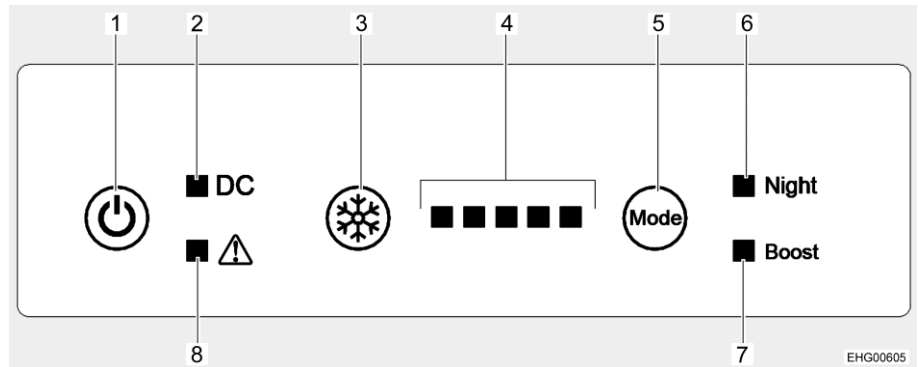

Fig. 110 Operating controls (refrigerator)
- Press and hold the On/Off button (Fig. 110,1) for 1 second. The buzzer sounds, all indicator lamps light up (light test) and go out after approx. 10 seconds. Only the operation indicator lamp (Fig. 110,2) remains lit, indicating that the refrigerator is working. The compressor starts after a short delay.
- Press and hold the On/Off button (Fig. 110,1) for 10 seconds. The buzzer sounds and all indicator lamps go out.
- Press the button for cooling setting (Fig. 110,3) repeatedly until the desired cooling level is displayed. The more indicator lamps (Fig. 110,4) are lit, the higher the cooling power (and also the energy consumption).
- Press the operating mode button (Fig. 110,5) repeatedly until the night mode indicator lamp (Fig. 110,6) is lit. The refrigerator is now working in night mode.
- Press the operating mode button (Fig. 110,5) repeatedly until the night mode indicator lamp (Fig. 110,6) goes out. The refrigerator is working in normal mode again.
- Press the operating mode button (Fig. 110,5) repeatedly until the boost mode indicator lamp (Fig. 110,7) is lit. The refrigerator is now working in boost mode.
- Press the operating mode button (Fig. 110,5) repeatedly until the boost mode indicator lamp (Fig. 110,7) goes out. The refrigerator is working in normal mode again.